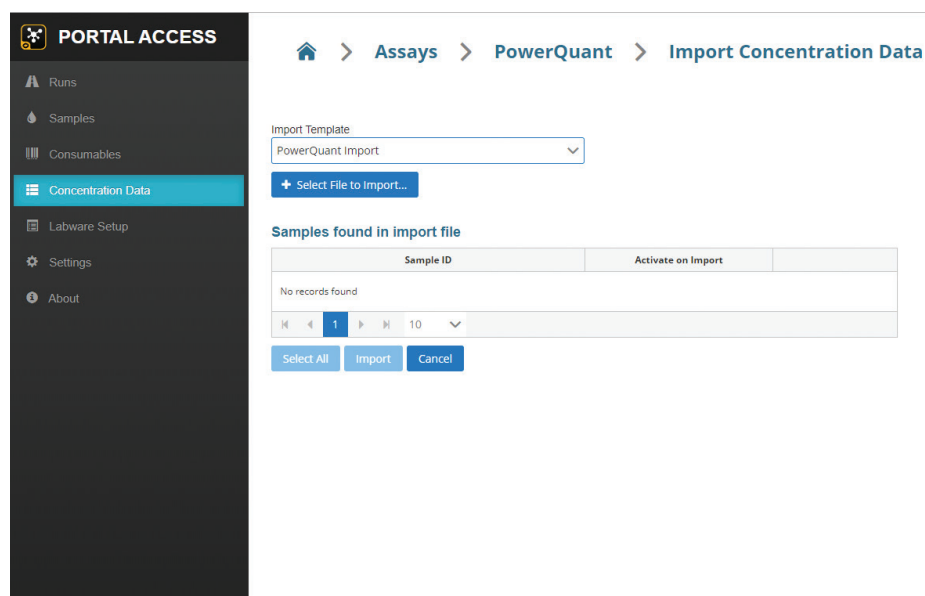

Figure 23. 'Import Concentration Data' screen. Select an import template and a concentration data file to import concentration data for a set of samples.
2. Press the **Import Concentration** button to open the 'Import Concentration Data' screen (Figure 23).